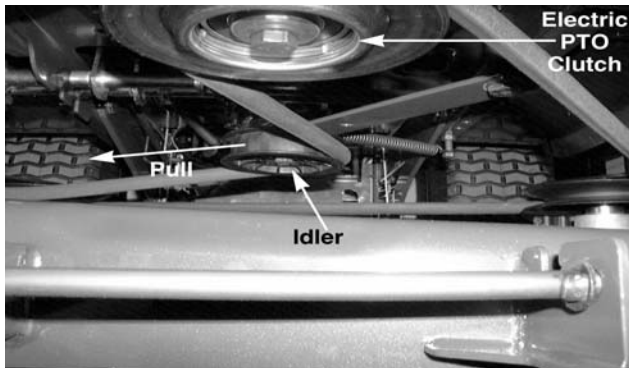

Figure 9-9.
2. Pull the PTO idler pulley and bracket towards the discharge chute, relieving belt tension. See Figure 9-9.